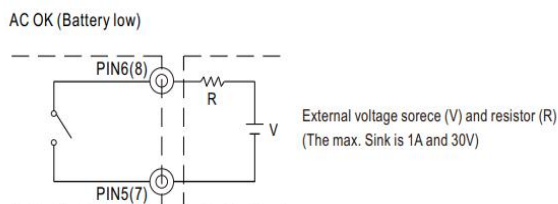

Fig 2.2 Internal circuit of AC OK (Battery Low), via relay contact
(1) Alarm Signal is sent out through "AC OK" & " Battery Low " pins via relay contact.
(2) An external voltage source is required for this function. The maximum applied voltage is 30V and the maximum sink current is 1A. Please refer to Fig 2.2.
(3) Table2.1 explains the alarm function built in the power supply
(4) AC OK signal (RL1,referring to Block Diagram) will go into hiccup mode when the overload protecton is activated.